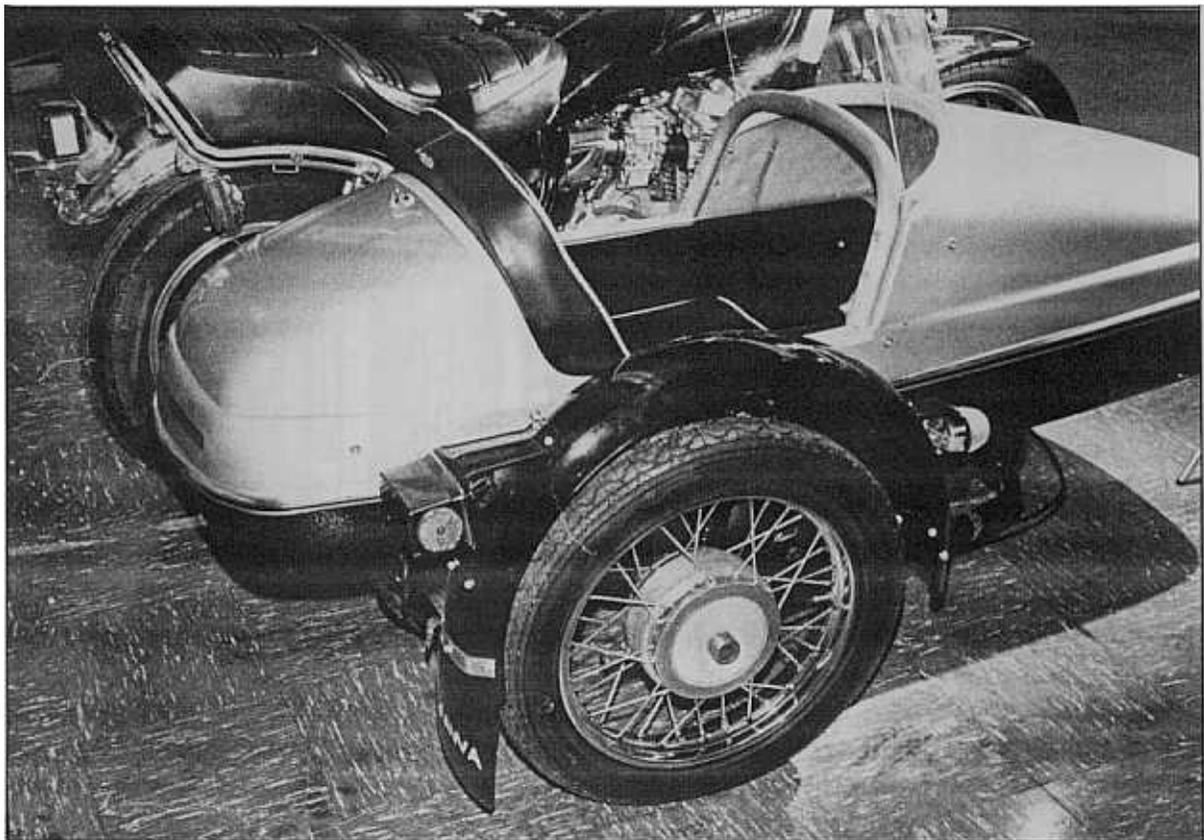

FIGURE 13. Correct wheel offset shows sidecar wheel axle 8 to 10 inches ahead of motorcycle wheel axle.
10. **IMPORTANT** In final assembly, the short **Strut** at the bottom rear of the sidecar frame must be at an exact right angle (90°) to the sidecar and motorcycle frames, thus placing the sidecar wheel ahead of the rear wheel of the motorcycle by 8 to 10 inches. This **wheel offset** distance is important (see figure 13).